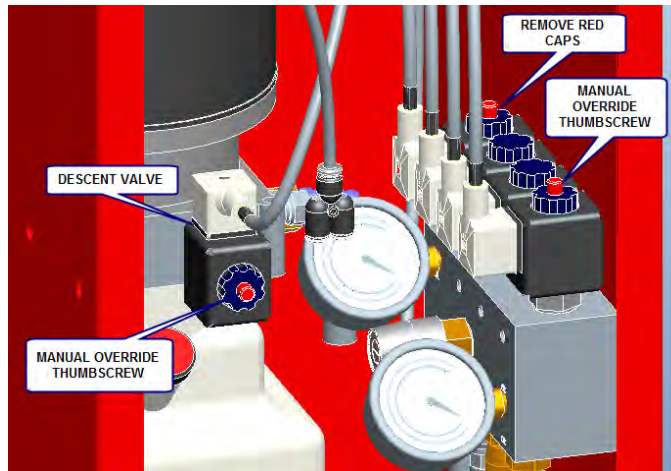

Figure 21 – Image of descent valves
- 5) Locate the descent valve on the hydraulic power unit, see Figure 21.